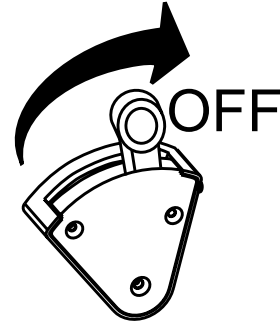

Figure 38. Safety Stop Switch (OFF)
3. Place the safety stop switch (Figure 38) in the **OFF** position.